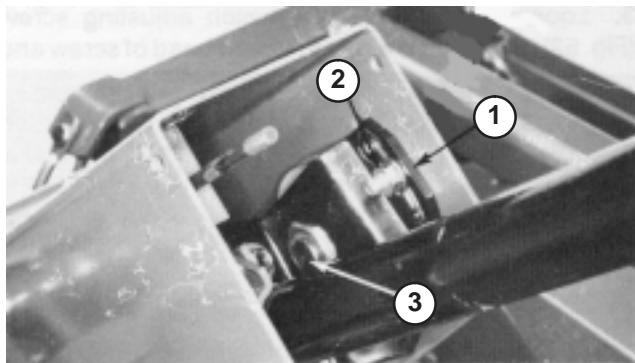

Figure 64
1. Remove knob from parking brake and self tapping screws from steering column cover. Slide cover up steering shaft to expose pivot bracket (Fig. 64).
2. Loosen small nut, rotate pivot bracket until it tightens large nut below (Fig. 64). Retighten small nut.